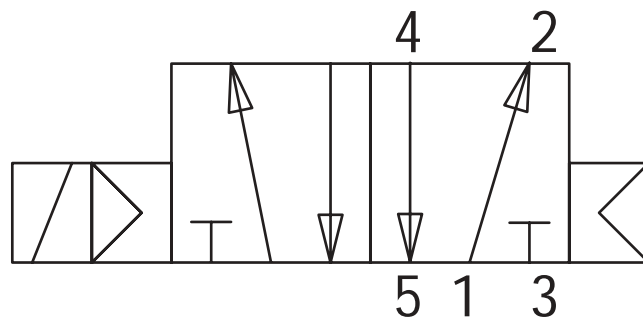
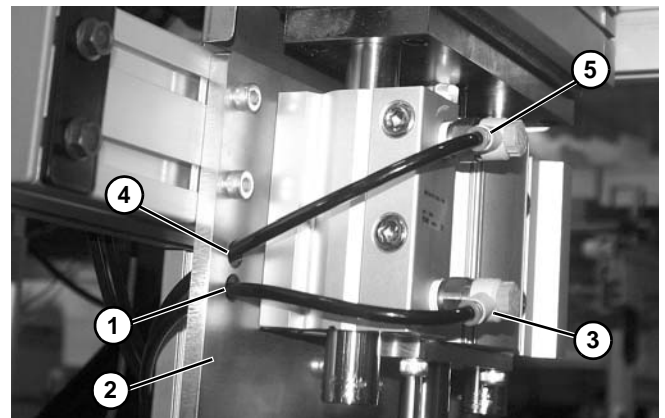

Figure 58
Figure 61
Dorner recommends using a 5 port, 2 way solenoid valve (**Figure 58**) to operate the cylinder.
1. Connect Port 4 (**Figure 58**) of the 5-port 2-way solenoid through the lower opening (**Figure 61, item 1**) in plate (**Figure 61, item 2**) and to the lowest port (**Figure 61, item 3**) on the lift. Dorner fittings accept 1/4" outside diameter tubing standard.
2. Connect Port 2 (**Figure 58**) of the 5-port 2-way solenoid through the upper opening (**Figure 61, item 4**) in plate (**Figure 61, item 2**) and to the upper port (**Figure 61, item 5**) on the lift. Dorner fittings accept 1/4" outside diameter tubing standard.